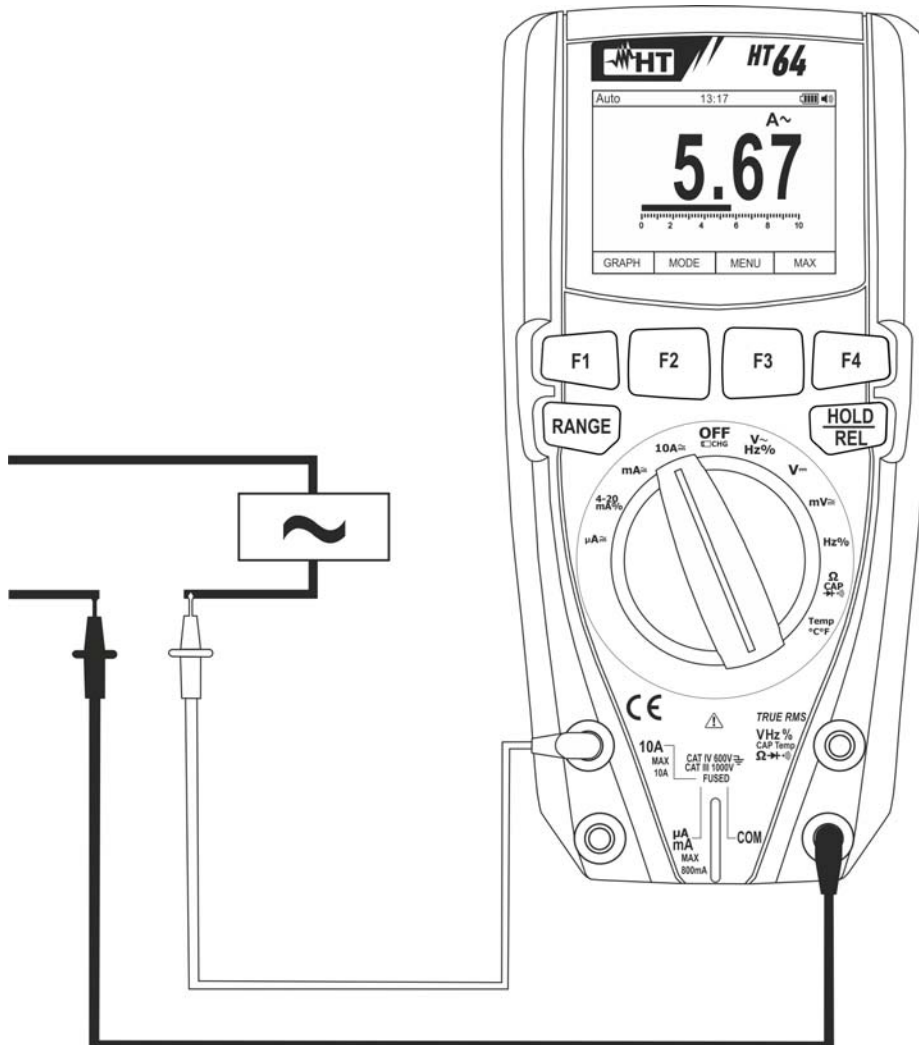

Fig. 30: Use of the instrument for AC current measurement
5. Connect the red lead and the black lead in series to the circuit whose current you want to measure (see Fig. 30).